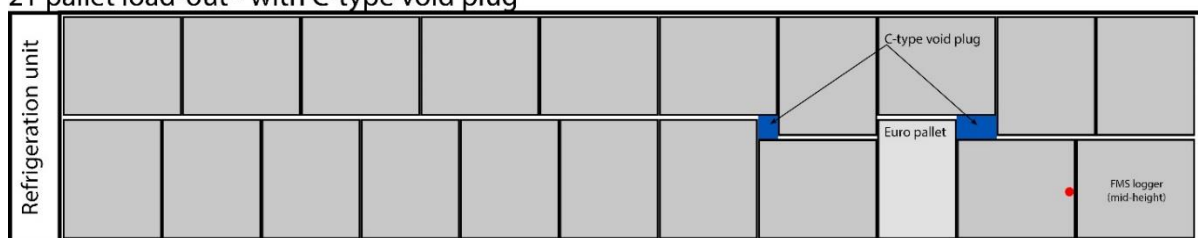

Figure 3: Placement position of C-type void plugs (blue) and the temperature loggers (red).
- The exporter must ensure that the chimney-type (**C-type**) void plugs are installed in both chimney locations (see the areas to cover in blue - Figure 3).